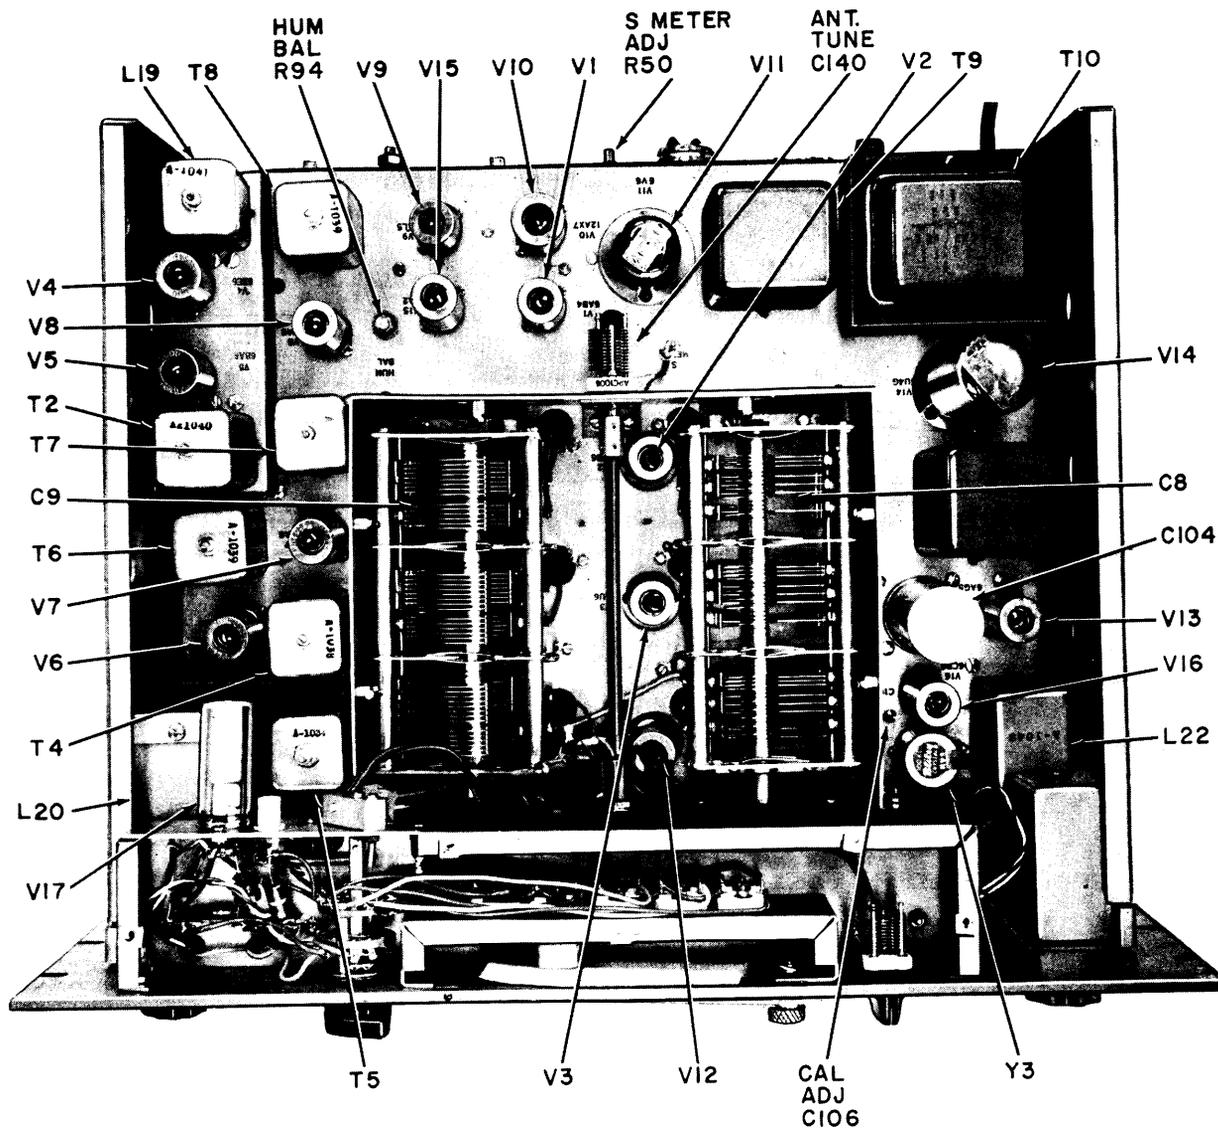

Figure 5-2. Location of Major Electronic Components, GPR-90RXD, Top View
b. LOCATION DATA. - Figures 5-2 and 5-3 locate the major electronic elements of the GPR-90RXD.
(1) GENERAL. - Corrective maintenance of the GPR-90RXD's is limited to alignment of their tank circuits, S-meters, and hum balance adjustments. The circuits of the GPR-90RXD have been carefully aligned by factory personnel. Realignment of the GPR-90RXD should not be attempted until all other causes of faulty operation have been investigated. Alignment should not be required unless the GPR-90RXD has been tampered with or some component part replaced in the stages containing tuned circuits. Alignment should be made only by personnel familiar with GPR-90RXD's and experienced with their alignment.
(2) IF ALIGNMENT. - The low frequency should be aligned first. Remove the dust cover over the tuning capacitor shield compartment by removing the knurled nuts. Couple the signal generator to the lug of the middle section of the main tuning capacitor. (See figure 5-2.) Connect the oscillator return to ground by means of a short wire with alligator clips on each end. Connect the 600-ohm, 10-watt load and the AC voltmeter across the 600-ohm speaker terminals. Set the following controls and switches as follows:
(3) 455 KC. - Turn the RF SELECTIVITY to the NON XTAL position and the signal generator frequency to 455 kc, modulated 30 percent at 400 cycles. A pair of headphones may be used for monitoring purposes. Adjust the signal generator output until some deflection is noted on the output meter. Peak IF transformers T8, T7, T6, T5 (top and bottom), and T4 (top) for maximum output. (See figures 5-2 and 5-3 for the location of these adjustments. During